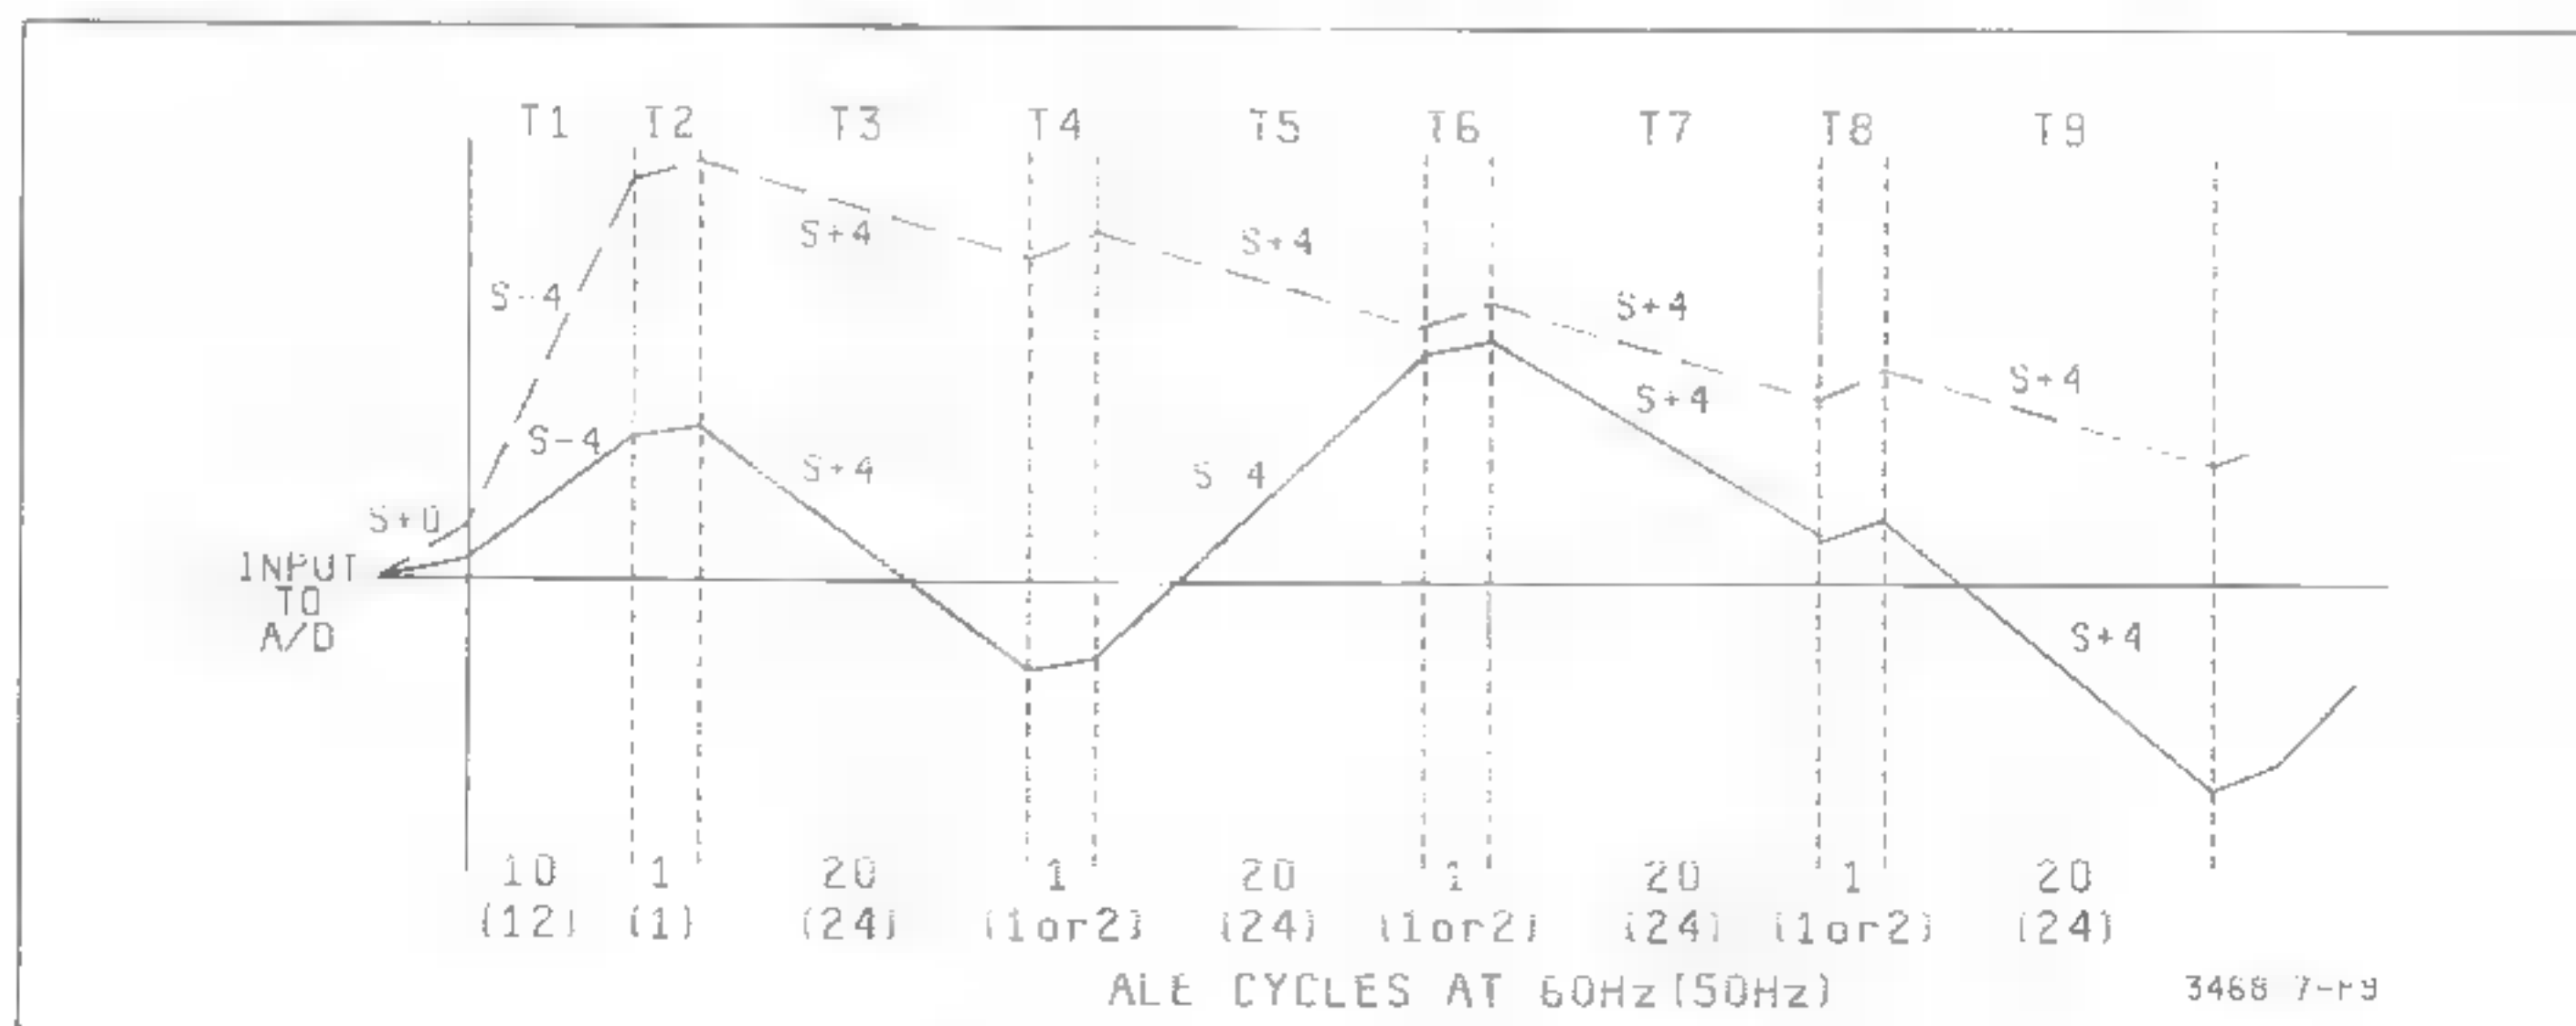

Figure 7-F-9. Runup Slopes (4 1/2 Digit Mode)
7-F-37. Detailed Explanation of Runup. Figure 7-F-9 illustrates the 3468A runup operation in the 4 1/2 digit mode. Refer to the figure (and Schematic 3) for the runup explanation in the following steps. The solid lines (in the figure) showing the runup sequence is for a hypothetical input value. The dashed lines are for a larger hypothetical input value.
a. When runup starts, the integrator capacitor (C410) is charged by the input current (which is developed by the input voltage). The input current is applied to the negative terminal of integrator U401 (see Figure 7-F-7), and since the integrator is in the inverting configuration, the resultant output of U401 is positive (for positive input currents the slope is negative). The capacitor is charged for a short time period.